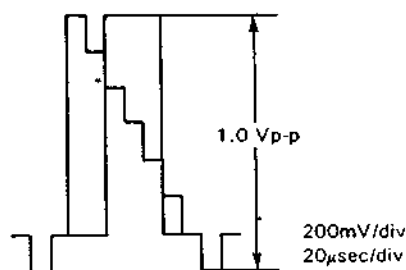

Figure 2-6.
2. Feed the color bar signal (stair-case waveform) to the video input terminal. Observing the voltage across the terminal resistor of the video output terminal on the oscilloscope screen, adjust R201 (EE level control) to obtain the value indicated in Fig. 2-6.
6. Repeat the above step 5 to finally get the playback video signal level at 1.0 ± 0.05 Vp-p, as shown in Fig. 2-6.